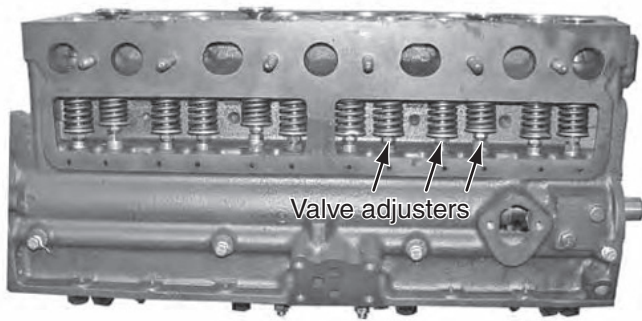

FIGURE 17.60 Typical valve adjustment on a vintage flathead engine involves the removal of access panels on the side of the block. (Courtesy of Tim Gilles)
- Insert a feeler gauge of the specified thickness between the rocker arm and the valve tip, and take up the clearance at the rocker adjustment screw (**Figure 17.60**).
Flathead engines, also called L-head engines, were popular until the early 1950s. A typical flathead like the Studebaker six cylinder engine shown in **Figure 17.60** had removable covers on the side that allowed access to the valve adjusters at the bottoms of the valve stems.